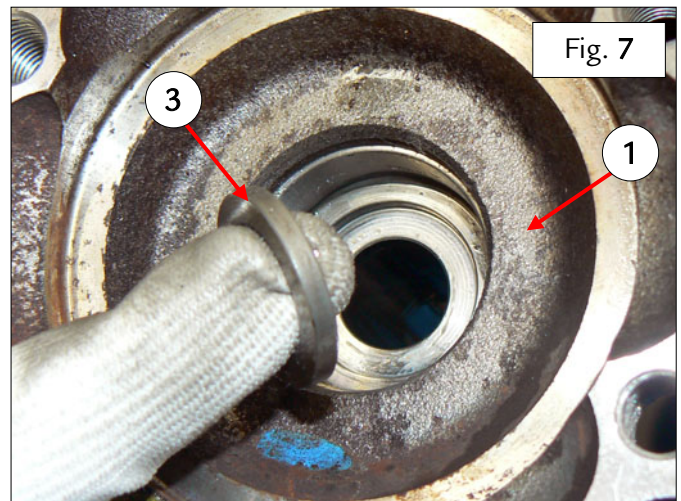

Fig. 7
- Replace the indicated plug and tighten a torque of **25 Nm** class B – Fig. 7.
- Retrieve the washer (3) from the right hand flange (1) – Fig. 7.